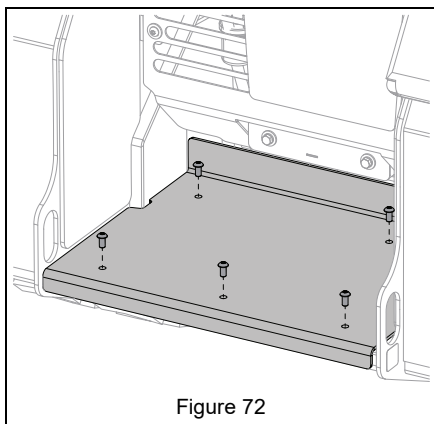

Figure 72
7. Reinstall foot pad with hardware removed earlier. See Figure 72.